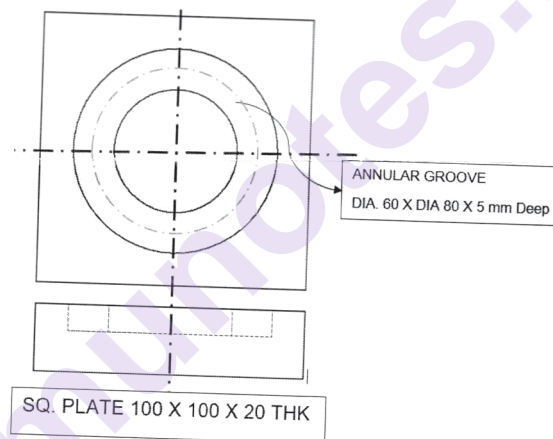

Figure 2: Qu 5(b)
- b)** Write CNC part programming for Milling for component as shown in figure 2 using concept of sub-programming with 1 mm step. Assume suitable cutting data. [12]